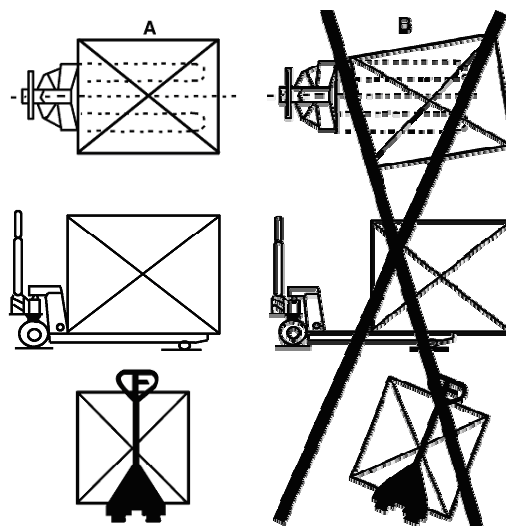

Figure 3
- 4) Do not put your hand or foot under the fork or on the moving surface of piston rod (406) and mid-cylinder (413).
- 6) Do not load goods like fig. 3/B. Center loads on the pallet truck.